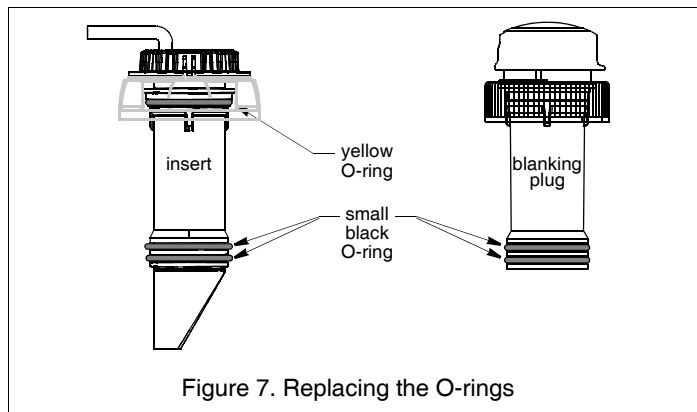

Figure 7. Replacing the O-rings
1. O-rings must be intact and well lubricated to make a watertight seal. After the marine sealant cures, inspect the O-rings on the insert (replace if necessary) and lubricate them with the silicone lubricant supplied (see Figure 7). Be sure the **YELLOW** O-ring is in place near the top. Also lubricate the bore of the housing above the valve.
- The O-rings must be intact and well lubricated to make a watertight seal. On the blanking plug, inspect the O-rings (replace if necessary) and lubricate them with the silicone lubricant supplied or petroleum jelly (Vaseline®) (see Figure 7).